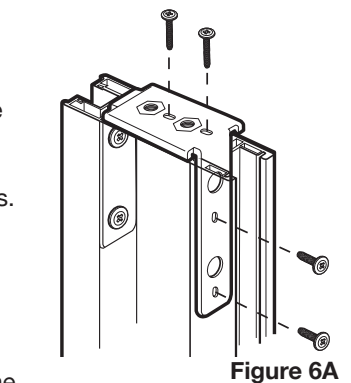

Figure 6A
Insert two small screws (Q) into the oval holes on top of the U bracket and secure to the top of the stile. Take 2 small screws (Q) and secure into the oval hole in the outside of U bracket (G). This will be the outside channel of the stile. See Figure 6A & 6B